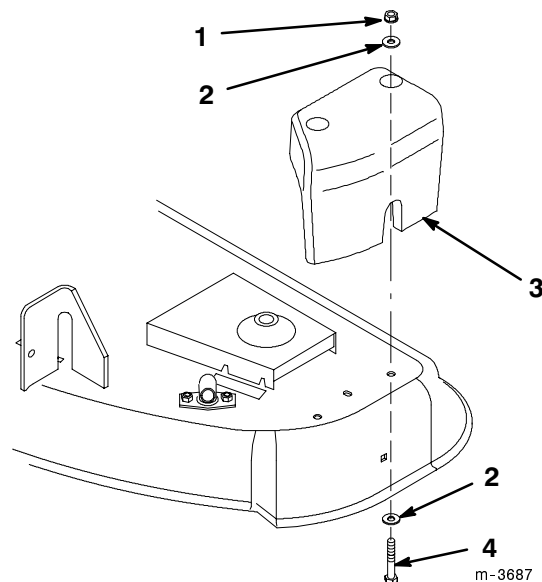

Figure 31
2. Install (2) 3/8 x 3/4" (19 mm) bolts and (2) 3/8" locknuts in the open holes of the mower for safety (Fig. 31).
1. Remove the counterweight from the left-hand side of the mower (Fig. 31).